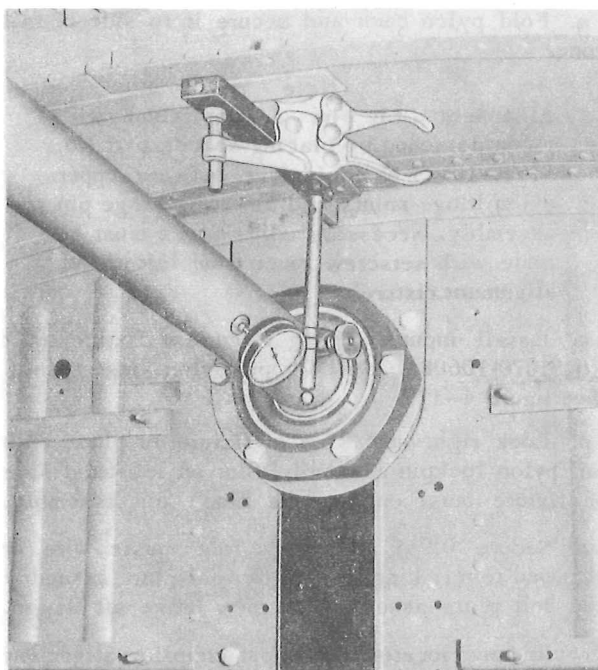

Figure 4-16. Checking Drive Shaft Runout
i. Use dial indicator attached to main gear box, or some other rigid attaching point, to check runout of installed section I of drive shaft. (See figure 4-16.) Maximum runout is 0.012-inch TIR.
ab. Check installed shafting for runout. Use dial indicator attached to rigid point. (See figure 4-16.)
l. Attach dial indicator to rigid point and check runout. (See figure 4-16.)